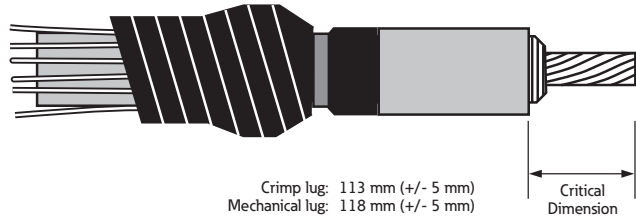

Figure 6. Cable adapter: Critical Dimension for crimp lug and mechanical lug
- Slide the cable adapter onto the cable, black end first, until the black end is flush with tape marker. Check the Critical Dimension as shown in Figure 6; then remove the marker.